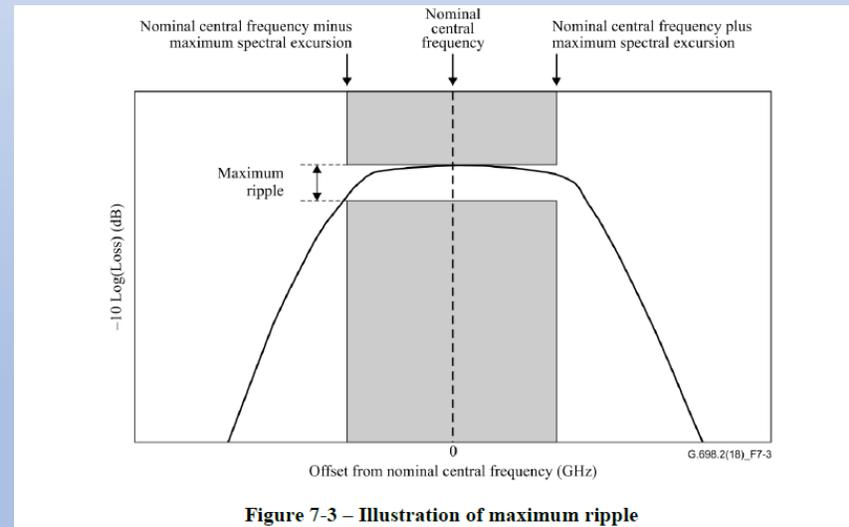

Figure 7-3
- ITU-T G.698.2 Figure 7-3 discusses the channel with regard to passband ripple